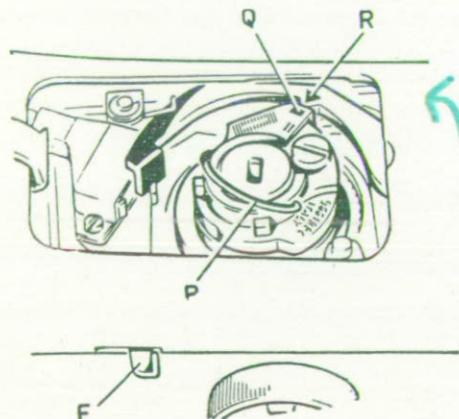

Fig. 69
- b) Start the machine and move lever « F » (fig. 69) towards the left, releasing it after a few seconds. Machine will start operating and it will make the buttonhole automatically, stopping by itself when the buttonhole is complete, even if you continue pressing on the rheostat. When the cam group will have again its red mark « Q » matching triangular mark « R », (fig. 69) the machine will be ready for another buttonhole.
The buttonhole can be obtained by using also the transparent zig-zag foot (no. 14, fig. 3), by operating manually lever « F » (fig. 69) of the micro-electro control.